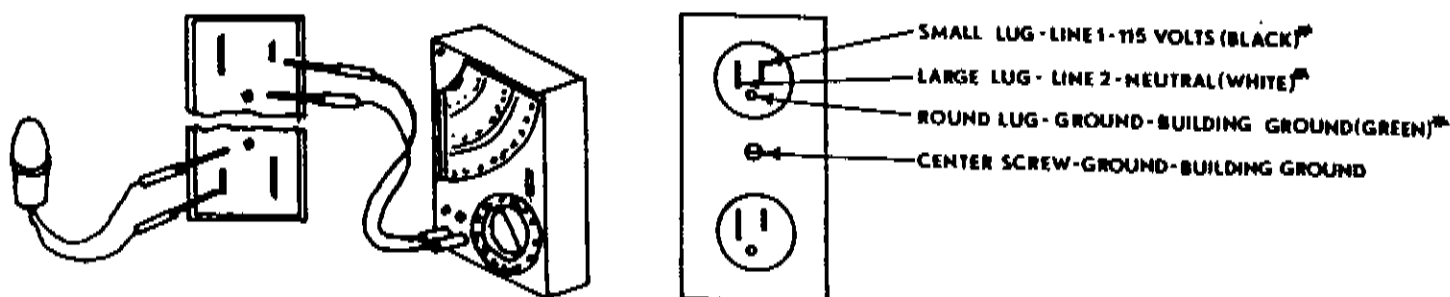

FIGURE 4
## 5. CONNECT TO POWER SUPPLY (Fig. 4)
**CAUTION:** To insure safe operation of an electrical device, it must be properly grounded and the power supply polarization should match that of the vender. To test, refer to Fig. 4. With one probe of the test device (test light or Volt meter) connected to the power fixture center screw and the other inserted into the large neutral orifice, you should get no light or meter reaction. When the probe is inserted in the smaller power orifice, you should get a light or meter reaction. If you get no reaction with either test, the outlet is not properly grounded. If the reaction occurs between the center screw and the large orifice, the power source is not properly polarized.